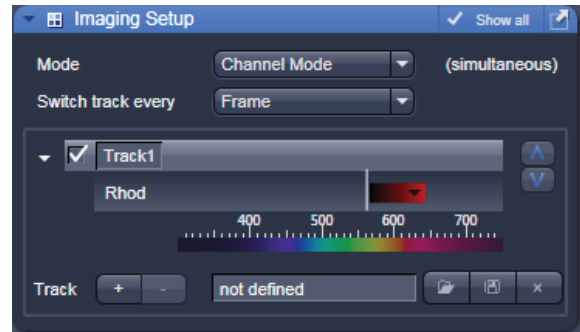

Fig. 4-78 Imaging Setup tool
- The **Imaging Setup** tool now shows the active channel and the detection range for the signal. You may want to save these settings as a specific imaging configuration (Fig. 4-78).